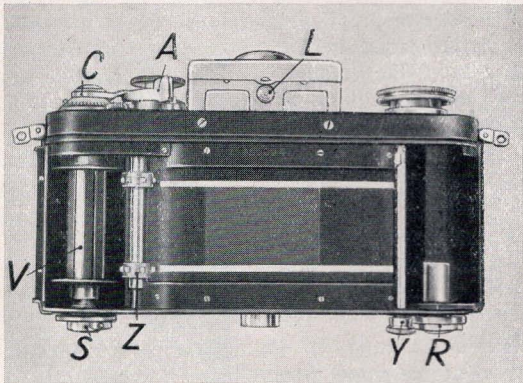
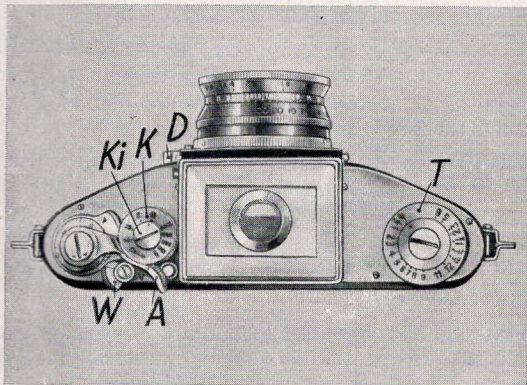
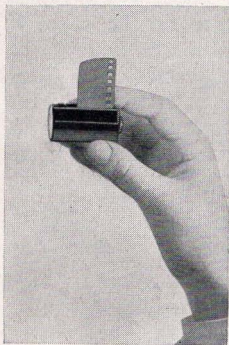
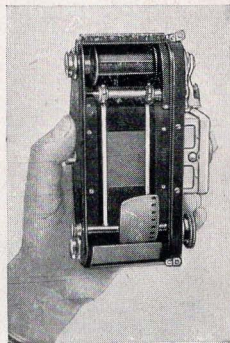

fig. 3
fig. 5
fig. 6
fig. 7
Holding the camera in the left hand as shown in fig. 2, the button **B** is pushed to the left (i. e. towards the bottom of the camera) to release the back. The latter is then taken off and placed on one side. The camera is now open, and the back will appear as in fig. 3.
The camera back is therefore detached and the finder hood allowed to spring open by pressing the small knob *L* (fig. 3). The camera will then look as in fig. 5 when viewed from the top.
Before attempting to load the camera, make sure that the small button *W* (shown in fig. 5) on the top of the camera is turned so that the letter "V" can be seen. Having made sure that this is so, the camera is opened by removing the back. The film cartridge is held in the right hand as shown in fig. 6: the circular hole in its base, in which its cross-peg is placed, is on the left. This position can easily be found by observing the manner in which the film projects from the cartridge.
The key *R* (fig. 3) is now raised and with its aid the circular peg which holds the cartridge in place is pulled outwards as far as it will come. The camera is now taken in the left hand, as seen in fig. 7, and the cartridge placed
To examine the image on the ground-glass focussing screen, the finder hood must be released by pressing the button *L* (fig. 3). In this position the ground glass may be examined from above.
1. The small button **W** (fig. 5) which changes the direction of the film from forwards to backwards is moved over so that the letter "**R**" (reverse) is seen.